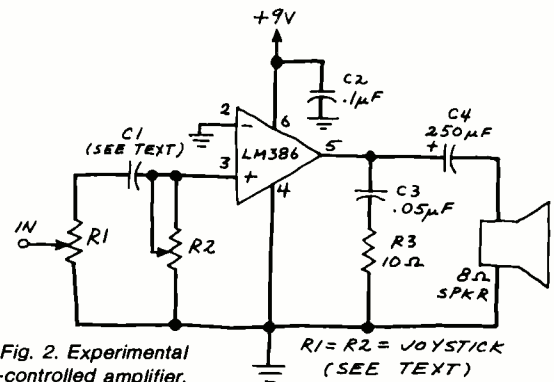

Fig. 2. Experimental joystick-controlled amplifier.
**Joystick-Controlled Tone and Amplitude.** Figure 2 shows an experimental joystick tone- and amplitude-controlled amplifier. In operation,  $R1$  controls the amplitude of the signal while  $C1$  and  $R2$  serve as a simple, but adjustable, tone-control filter.